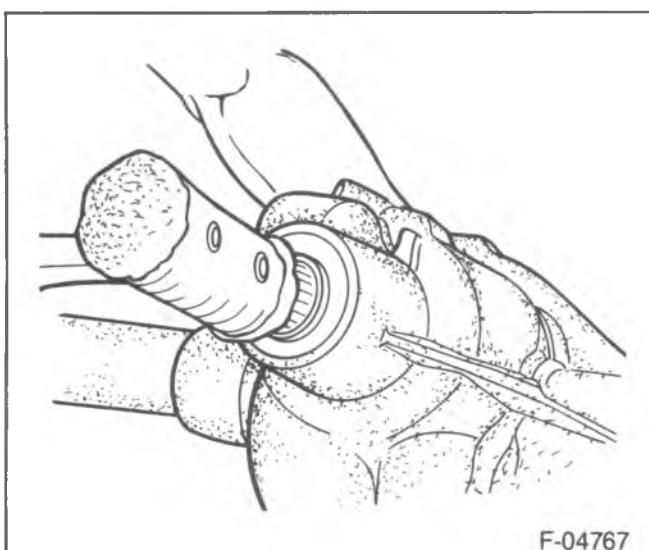

Figure 38—Removing the Pinion
- 18. Pinion (2) from the carrier using a rawhide hammer to tap the pinion (figure 38).
- 19. Carrier cover (14) and the pinion (2).
- 20. Pinion preload shims (6).